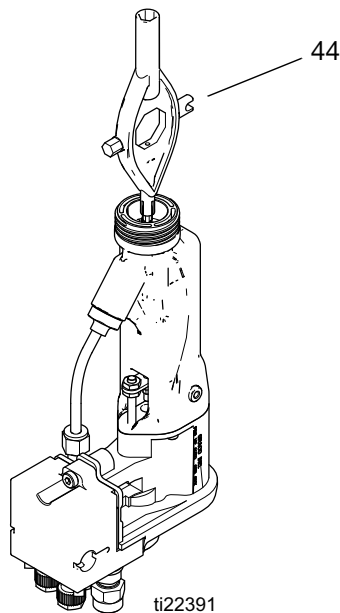

FIG. 24. Electrode Replacement
3. Unscrew the electrode (3) with the multi-tool (44), FIGURE 24.